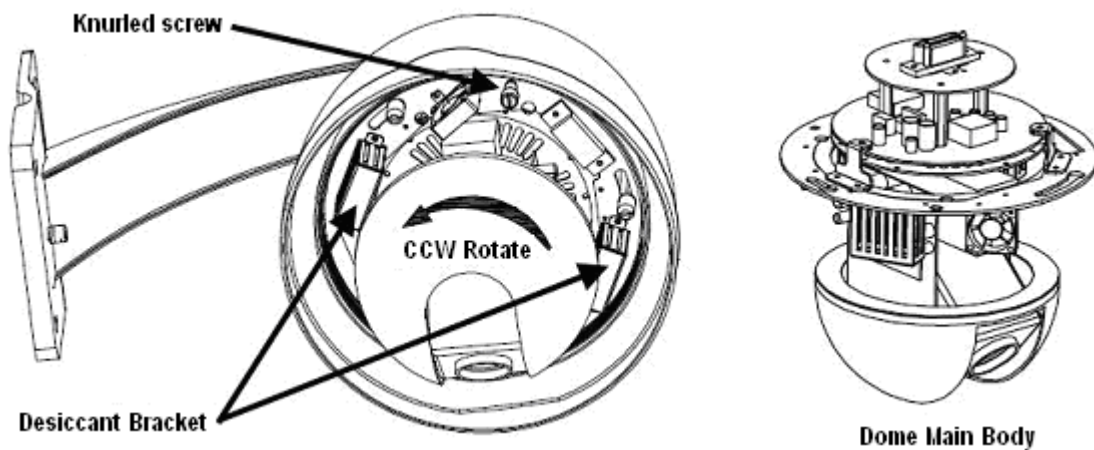

Figure 13
- 3 .Then loosen knurled-screw as shown bellow. Hold the drier shelf, look up the dome, revolve main body CCW (counter clockwise) and fetch it out (Figure13).